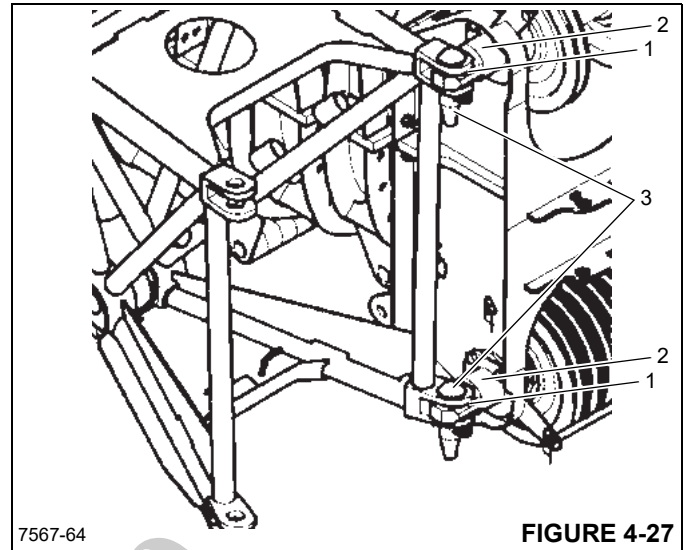

FIGURE 4-27
6. Align the extension left side mounting lugs (1) to the boom nose right side mounting lugs (2) (Figure 4-27).
7. Install the pins (3) through the mounting lugs and secure with the retaining clips.